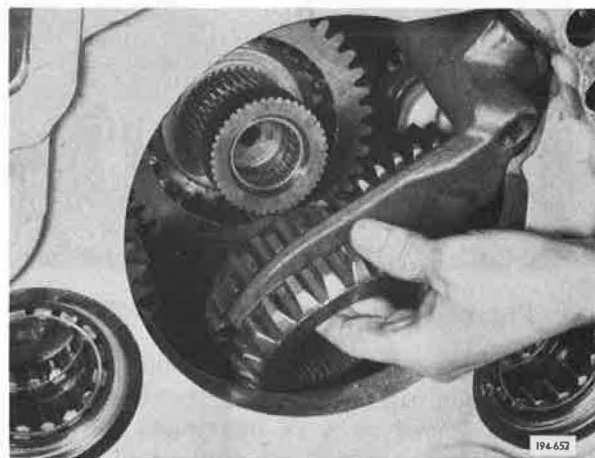

Figure 5-938. Installing Sliding Clutch and Shift Fork
29. Install Direct/Hi-range sliding clutch and its shift fork as an assembly. See Figure 5-938.